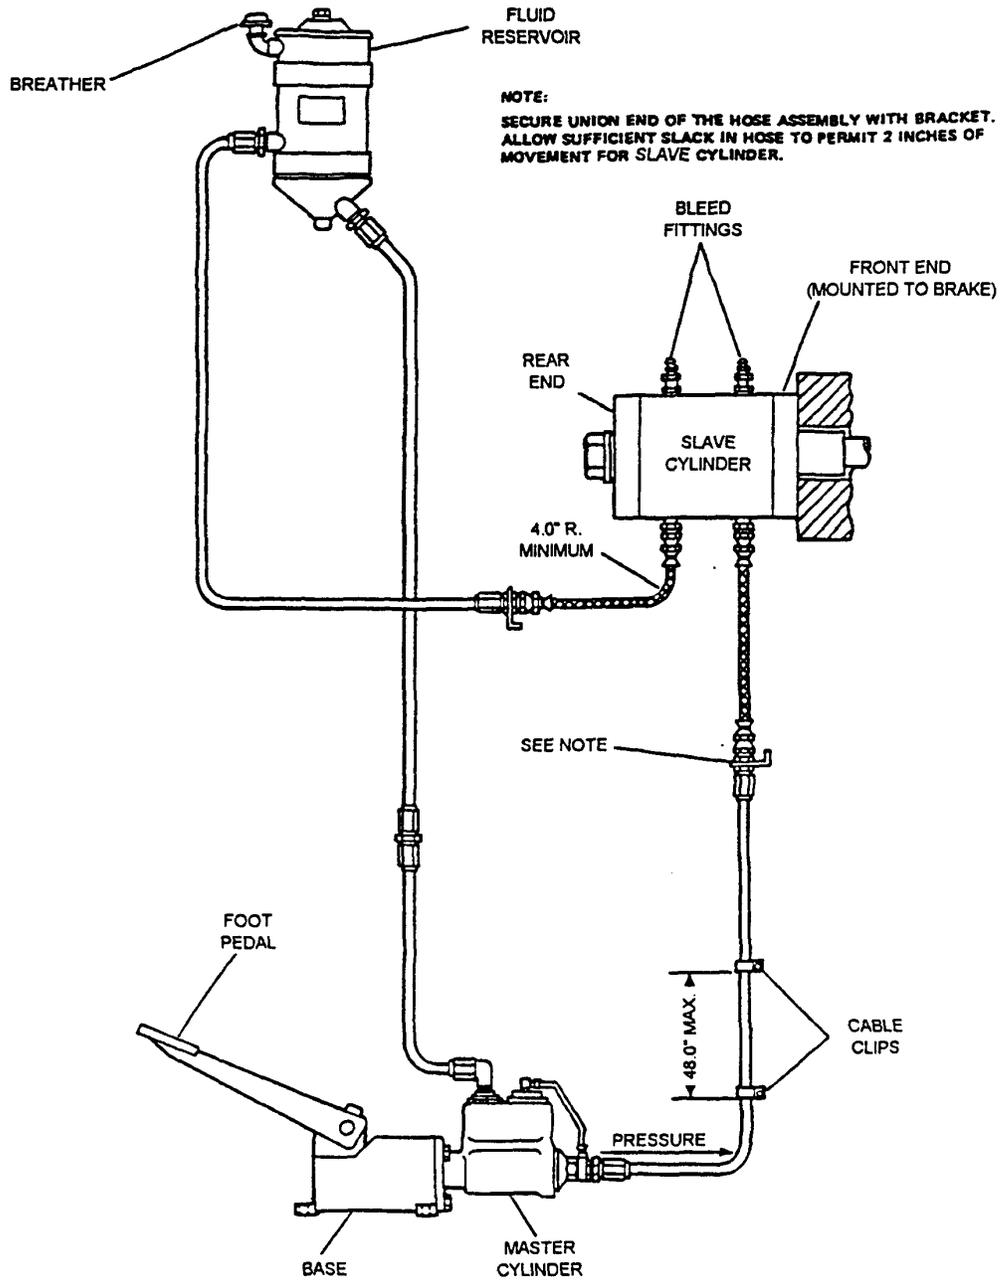

Figure 4
- 2.3.(b):** Single brake, single station, with remote electric bleed. See Fig. 4.
- 2.9: The remote electric bleed option permits quick, easy bleeding of each branch of the system by one person, usually the operator. Typical brake control systems with remote electric bleed are shown in Fig. 4, 6, 7 and 8.
6.7: **REMOTE ELECTRIC BLEED (OPTIONAL).** Refer to the hydraulic circuit for the actual installation Fig. 4, 6, 7 and 8, specifically the pressurized portion of the circuit, between the master cylinder through the front end of the slave cylinder up to and including the remote electric bleed solenoid valve.